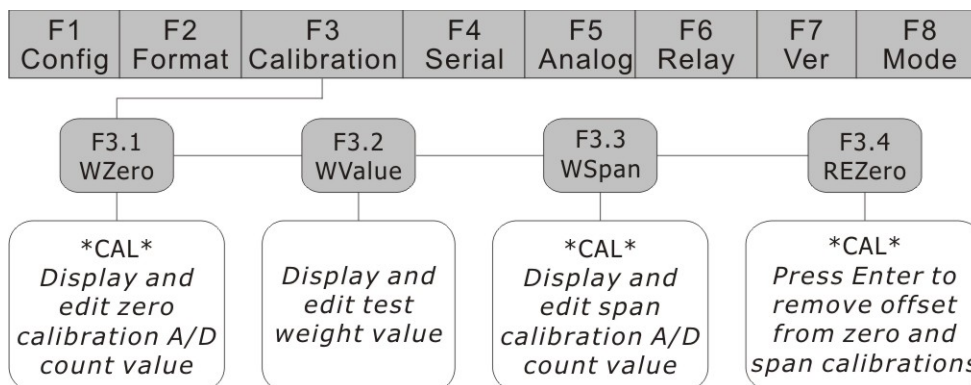

Fig.4-1 F3(Calibration) Menu
- 2) Press **【TARE】** until the display shows "F 3" (see Fig. 4-1). Press **【ZERO】** to go to zero calibration mode. Display shows "F 3.1".